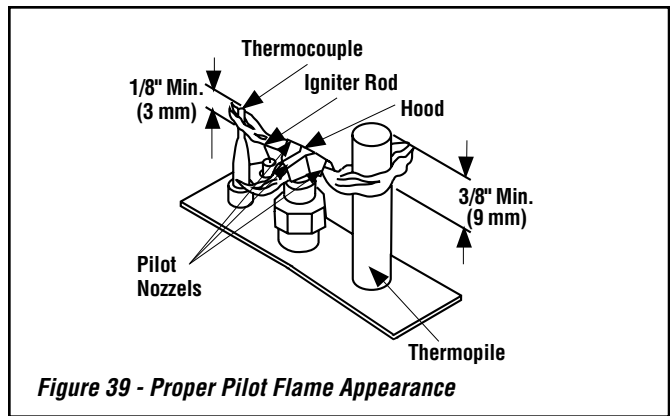

Figure 39 - Proper Pilot Flame Appearance
- ❑ Inspect the pilot system for proper flame (see **Figure 39**). NEVER ADJUST THE PILOT until after the gas pressure has been checked and the supply lines have been completely bled (this may take an hour or more when bleeding through the pilot). All pilots are checked and burned at the factory prior to shipment. The pilot adjustment screw is located below the ON/OFF/PILOT control knob. Remove the pilot adjusting cover with a flat-bladed screwdriver to access the pilot adjusting screw. Adjust the pilot screw to properly size the flames. The flames should directly contact the thermopile and extend across the main burner ports. Be careful not to back the screw out of its threads. Replace the cover and check for gas leaks using a gas leak test solution.